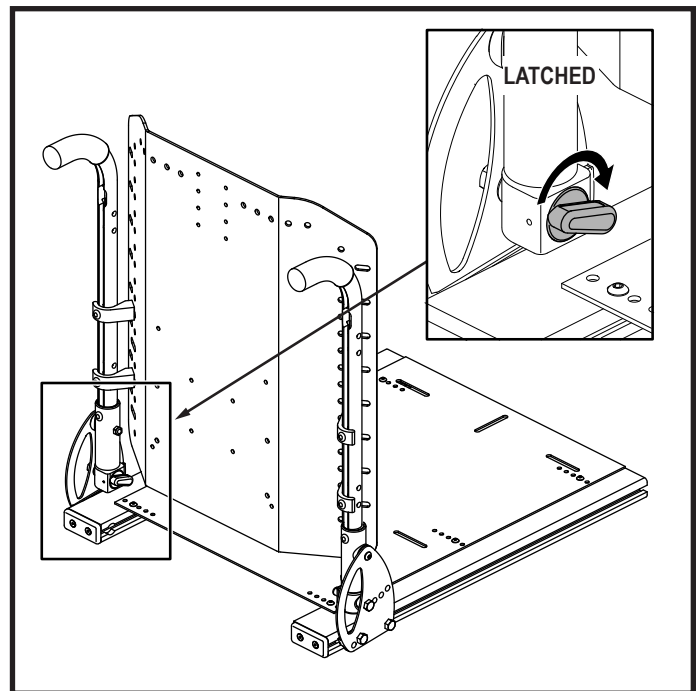

Figure 7. Flip-forward Back Canes (Latched)
2. Rotate the release lever on both back canes toward the front of the seat to latch the back canes. **See figure 7.** Ensure a red sticker on the release lever is not visible.